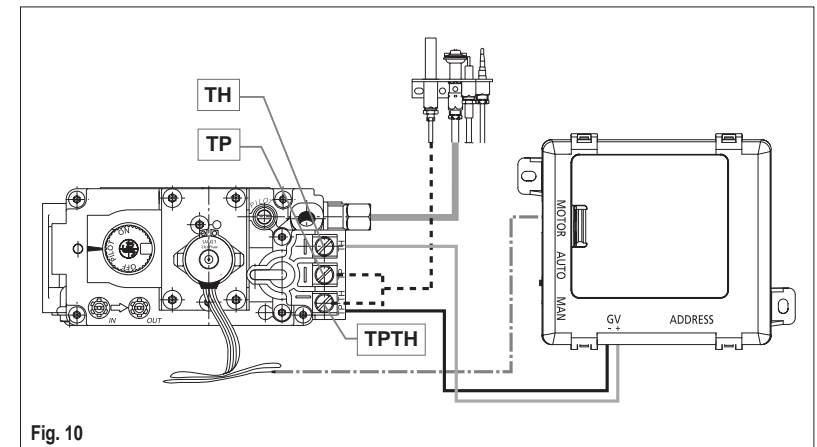

Fig. 10
- Check that the electrical connections are in accordance with Fig. 10.